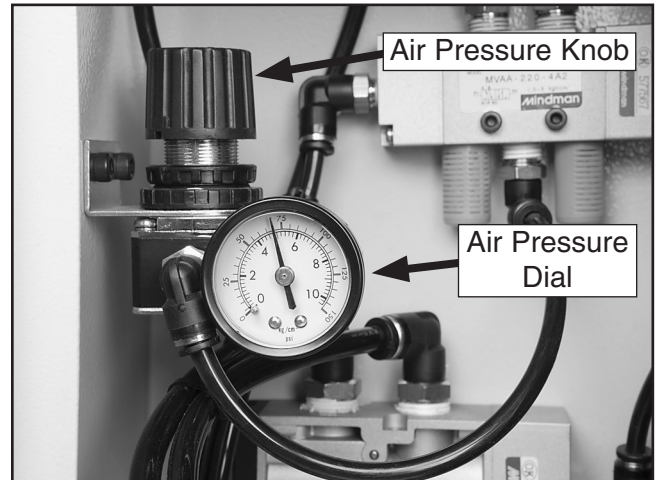

Figure 12. Internal air regulator.
3. Open the pneumatic access door on the right side of the machine and set the air pressure knob in a similar manner so that the air pressure dial reads 70 PSI (see **Figure 12**).